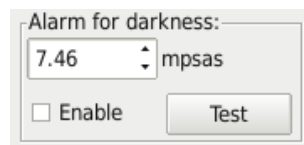

Figure 7.35: Log Continuously Alarm for darkness
**Alarm for darkness** When the darkness is over the threshold amount, an audio file can be enabled to play (Fig. 7.35) . The Test button plays this file for test purposes. The audio file is named **alarmsound.wav** and is located in the the Data Directory (which can be identified from the main page **View→Directories**).